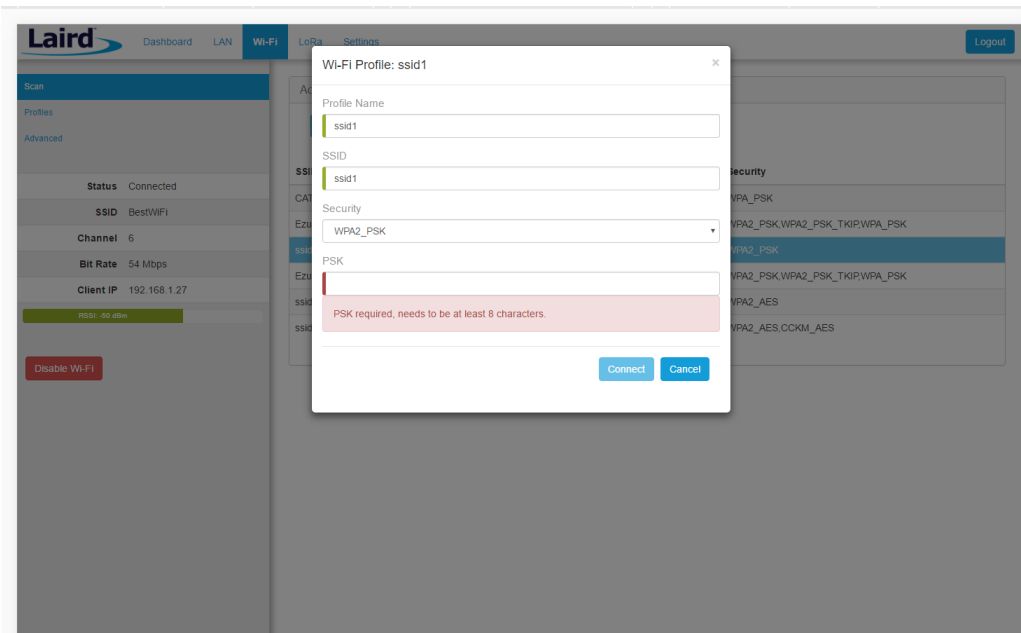

Figure 15: Wi-Fi profile window
- In the Wi-Fi profile window, enter the appropriate credential information for your chosen Wi-Fi network (Figure 15).